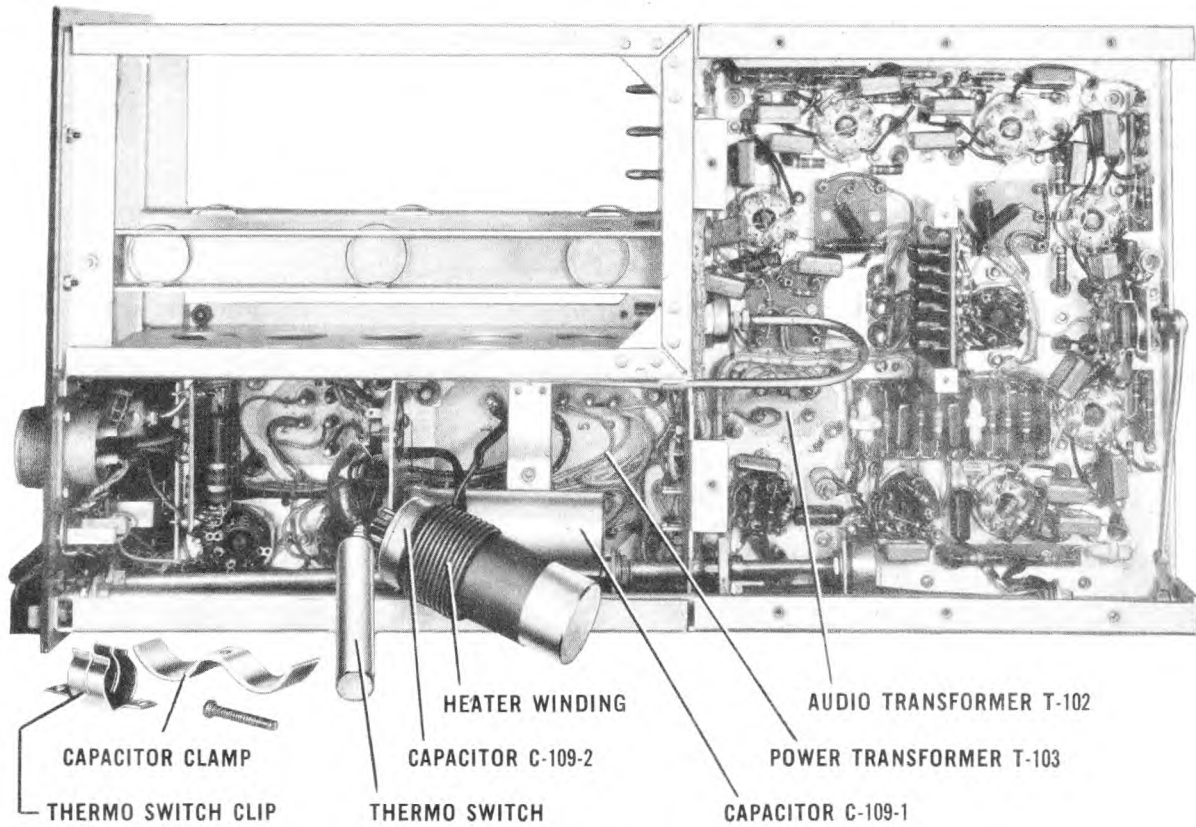

Figure 2-3. Radar Receiver R-54/APR-4—Transformer Locations
(3) SELECTION OF PROPER POWER SUPPLY VOLTAGE TAP ON RADAR RECEIVER R-54/APR-4.—All receivers are connected at the factory for 115 volts, 60 to 2,600 cycle-operation. If 80-volt operation is required change the tap on the power transformer T-103 (fig. 2-3) as follows:
(b) Remove the thermo-switch from its clip (figs. 2-3 and 2-4).
(d) Remove capacitor C-109-2 from its mounting socket. Use caution to prevent damage to the heater. Swing capacitor C-109-2 and heater to one side (fig. 2-3).
(b) Replace the hold-down clamp and the thermo-switch clip. (See figs. 2-3 and 2-4.)
(4) **SELECTION OF PROPER HEADSET IMPEDANCE.**—The receiver is connected at the factory for proper operation with 8000-ohm headsets. To use 600-ohm headsets, use Adapter MC-385-C or reconnect the audio transformer T-102 (fig. 2-3) as follows: